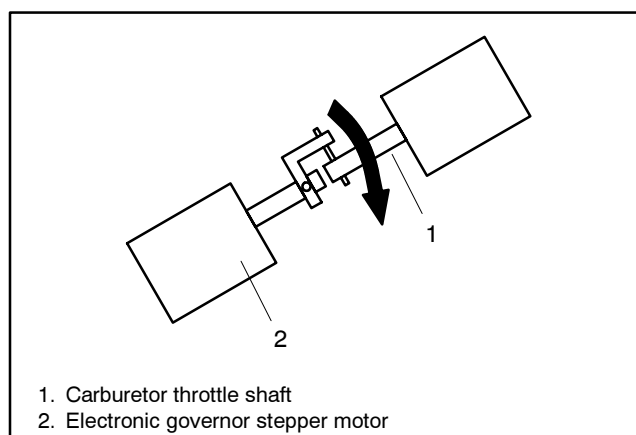

Figure 5-66 Manually Moving Stepper Motor
15. With unit running check overspeed cutout point. Manually move the throttle shaft/governor stepper motor coupling clockwise (as viewed from the back of the governor stepper motor). See Figure 5-66. Do not use **speed**-adjustment potentiometer to check the overspeed cutout point. Observe frequency meter and note frequency at which generator set shuts down. Factory setting is 72 Hz for 60 Hz models and 62 Hz for 50 Hz models, or 120% of rated speed/frequency.